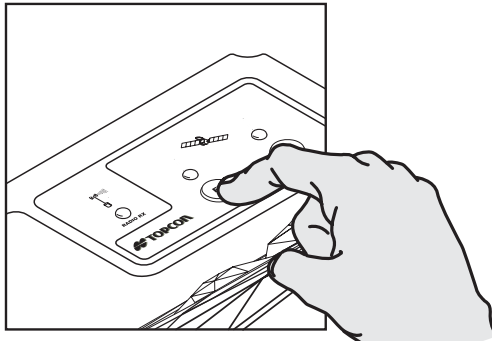

Figure 5-43. Hold FN Key While Turning PWR On to Clear NVRAM
2. Simultaneously press and hold the **Main FN** (Figure 5-43) and **AUX FN** keys.